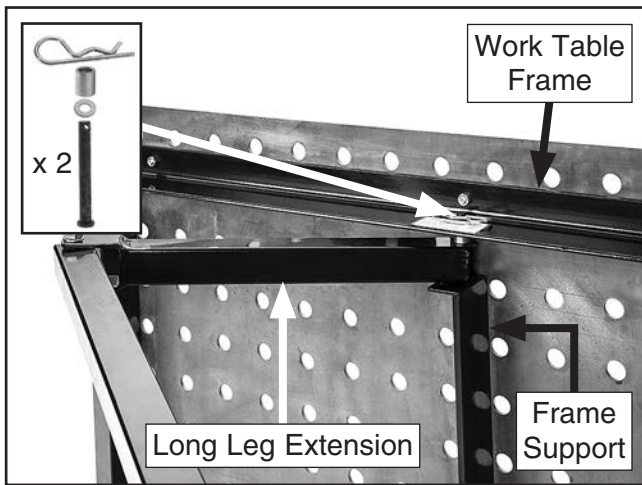

Figure 3. Long leg attached to work table frame and frame support.
- Attach long leg extensions to work table frame and frame support with (2) 8 x 68mm upper hinge pins, (2) 8mm flat washers, (2) short shaft sleeves, and (2) 3 x 61mm hairpin cotter pins (see **Figure 3**).